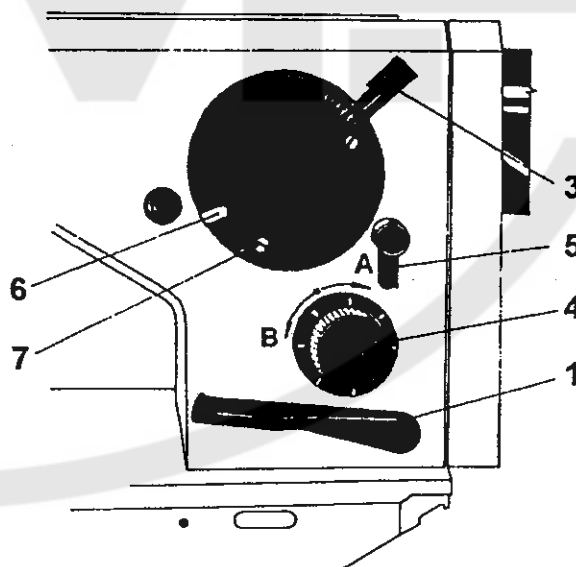

Fig. 7
1. Stitch length adjustment (Fig. 7)
2. To adjust the zigzag stitch width (Fig. 7)